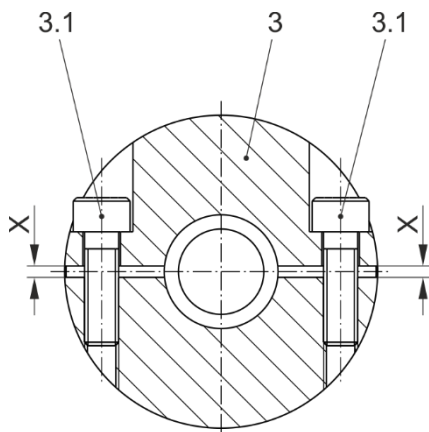

Fig. 13
- 2) Tighten the clamping screws (3.1) alternately and in several tightening sequences to the tightening torque stated in Table 6. Please make sure that the gap "X" (Fig. 13) has the same size on both hub sides. If necessary, re-adjust it.